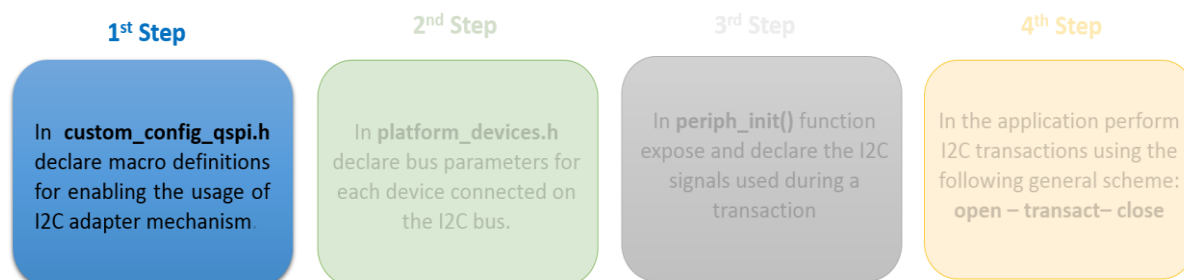

Figure 4: First Step for Configuring the I2C Adapter Mechanism
| Figure 4: First Step for Configuring the I2C Adapter Mechanism | 7 |
- As illustrated in Figure 4, the first step for configuring the I2C adapter mechanism is to enable it by defining the following macros in /config/custom_config_qspi.h: